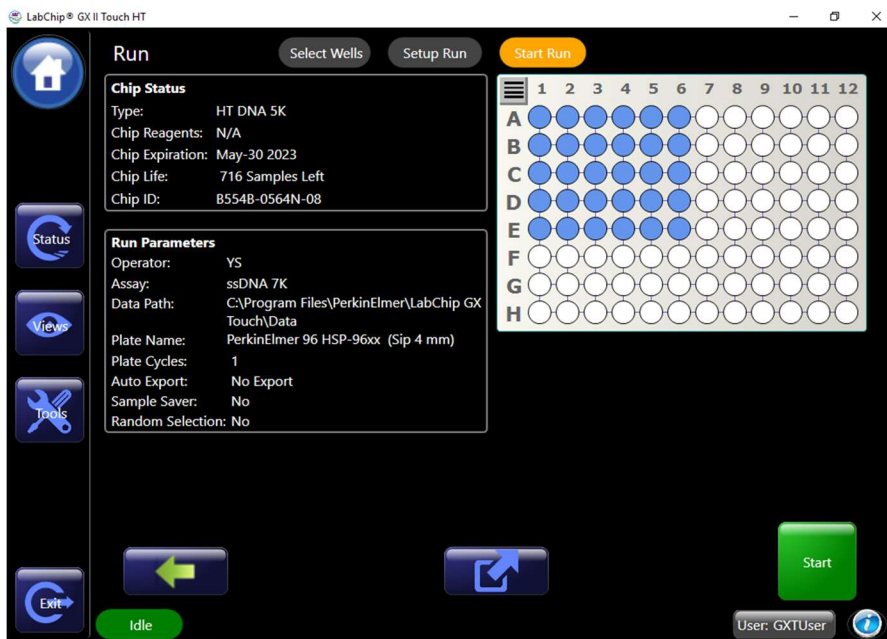

Figure 13. Start Run Tab
- 6 Touch the **Green Arrow** button. The Start Run tab (Figure 13) opens.